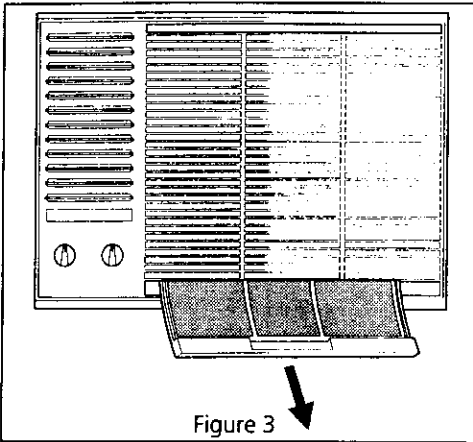

Figure 3
- For most installations in the window, this front may need to be removed to access the filter for cleaning (Figure 3). To remove the front, reverse the installation process for Side Air Discharge Models shown in Front Installation.